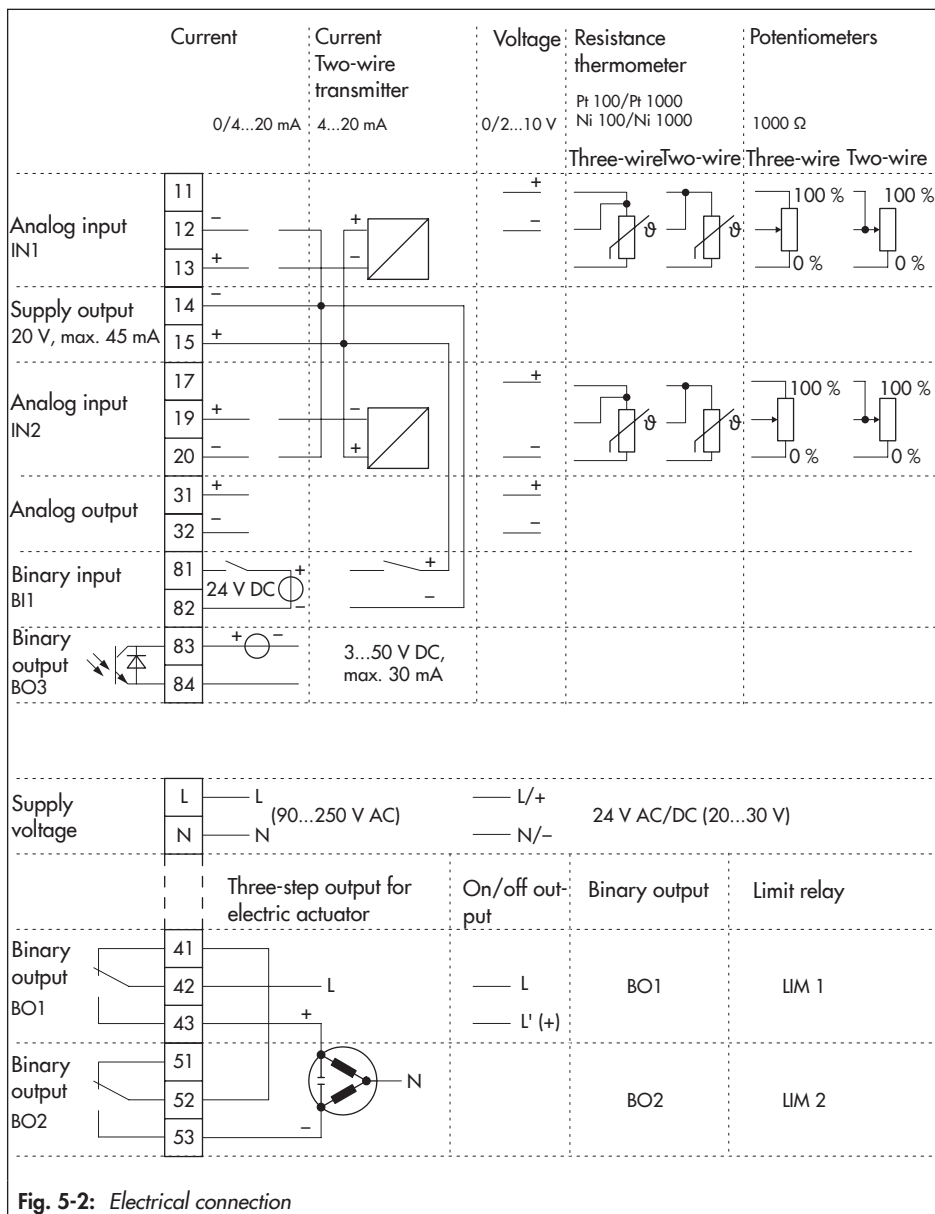

Fig. 5-2: Electrical connection
The compact controller has plug-on screw terminals for lines with a wire cross-section from 0.5 to 1.5 mm². The lines are connected to the terminal strips 1 to 2 (see Fig. 5-2).
- When resistance thermometers are connected in two-wire circuits, connect a jumper to the controller terminals (see Fig. 5-2).